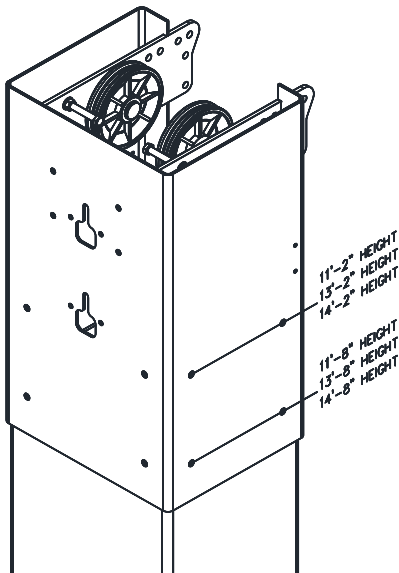

Fig. 3 – Column Extension Assembly
- 6) Assemble column extension to column by lining up the correct set of holes and use the 3/8"-16 x 3/4" lg. hex flange head bolts, Fig. 3. Repeat for opposite column and extension.